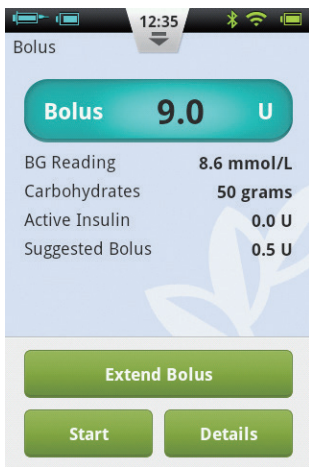

Figure 107
**3** The next page is the suggested bolus screen (Figure 107). At the top of the screen is the suggested bolus size, the middle of the screen contains the calculation parameters and the bottom of the screen are action buttons.